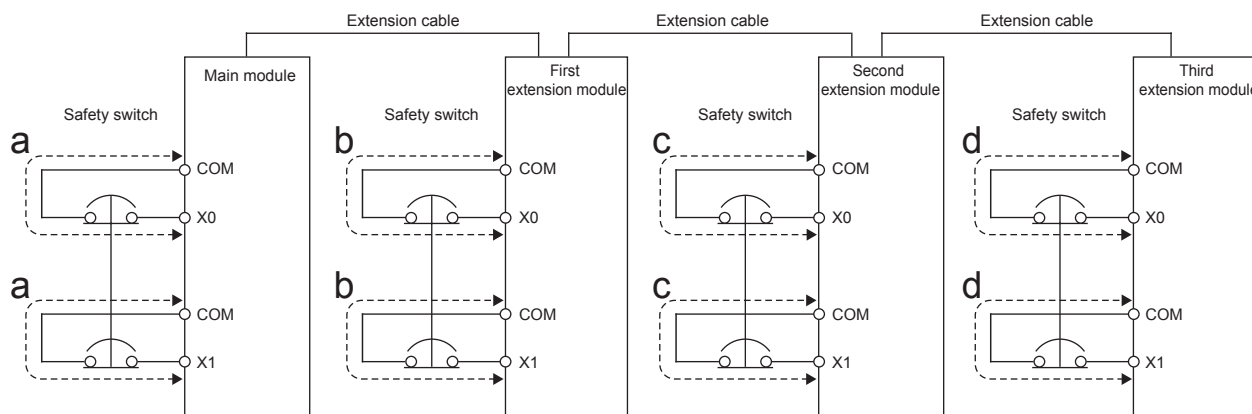

Figure 1 System configuration and external wiring diagram
*2: Each wire length (a, b, c, and d) corresponds to the same alphabets shown in Figure 1.